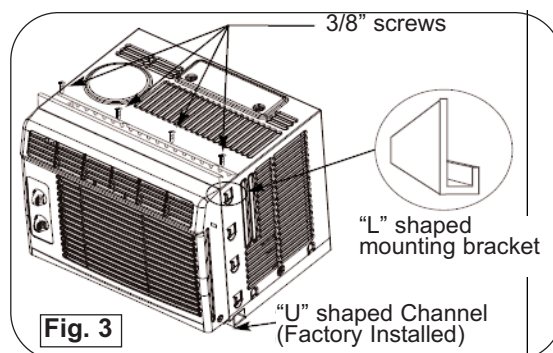

Fig. 3
- "L" Shaped Top Channel: Install the "L" shaped channel to the top of the cabinet as shown in Fig. 3, using four (4) 3/8" screws.